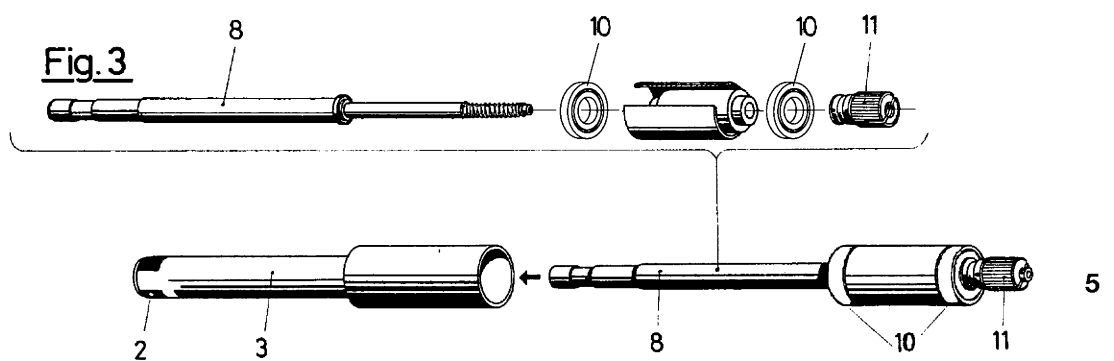

Fig. 3
If the ball bearings become fouled with dirt due to carelessness when changing the oil, they should be dismantled (see Fig. 3) and cleaned in undiluted gasoline (never use any other type of cleaning solvent).
If the ball bearings have to be replaced by new ones after the current meter has been in service over a long period, the procedure indicated in Fig. 3 should likewise be followed. Then place nut (11) on properly and tighten it. In doing so, the steel shaft (8) should preferably be held in the meter body (1) as indicated in Fig. 3. After assembly, remove the protective grease from the ball bearings with undiluted gasoline.